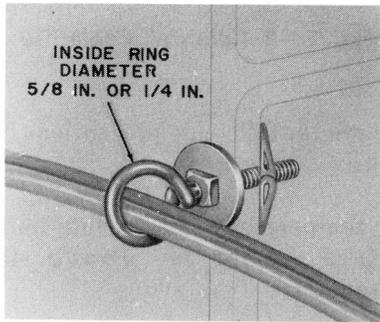

Fig. 6—Toggle Bridle Ring
D. Toggle Bridle Ring (Fig. 6)